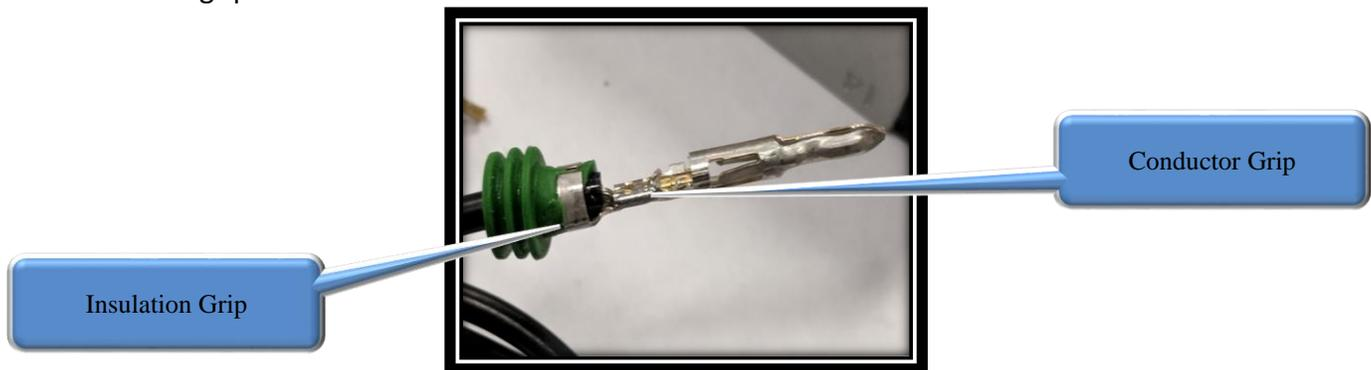

FIG 10.2
23. Insert 12010293 cable seal on to all wires during the crimping of 12124582 terminal pin on all wires. Inspect to ensure terminal is straight and not bent. Ensure the wire's conductors are crimped to the conductor grip of the terminal while the cable seal is crimped along with the wire's insulation grip. Refer to FIG. 10.2